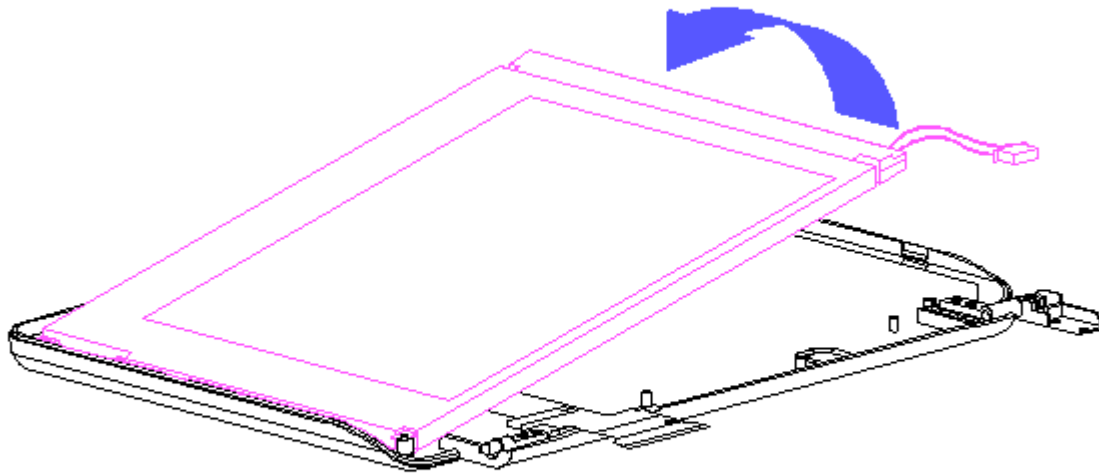

Figure 3-19. Lifting the LCD Panel out of the Display Enclosure
4. Carefully rotate the LCD panel to the left and out of the display enclosure (Figure 3-19).